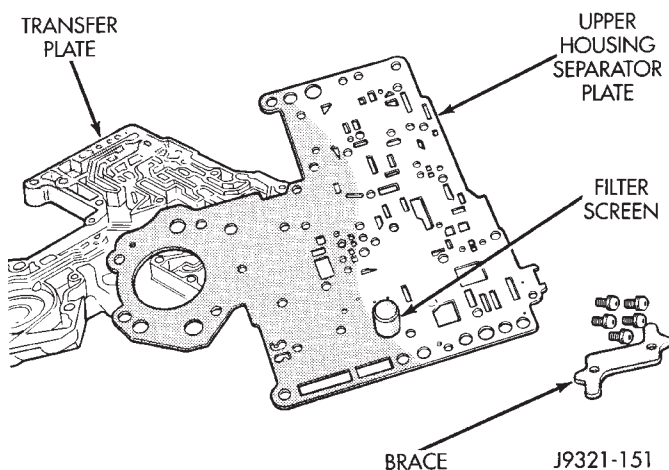

Fig. 109 Upper Housing Separator Plate Removal—RH
(24) Remove upper housing separator plate from transfer plate (Fig. 109). Note position of filter in separator plate for assembly reference.
- (2) Install filter screen in upper housing separator plate (Fig. 109).
- (3) Align and position upper housing separator plate on transfer plate (Fig. 109).